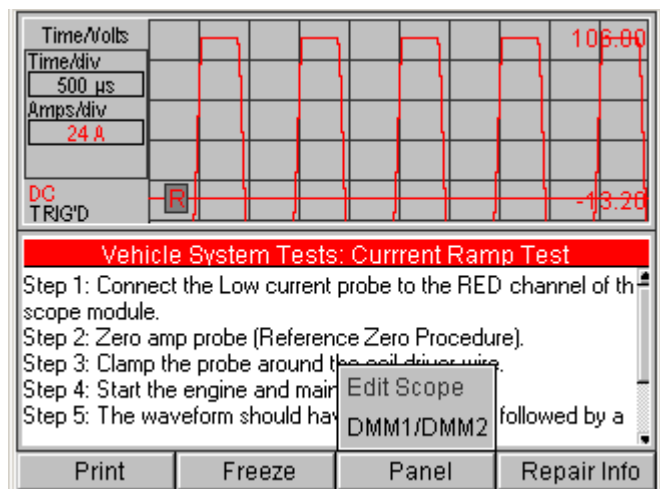
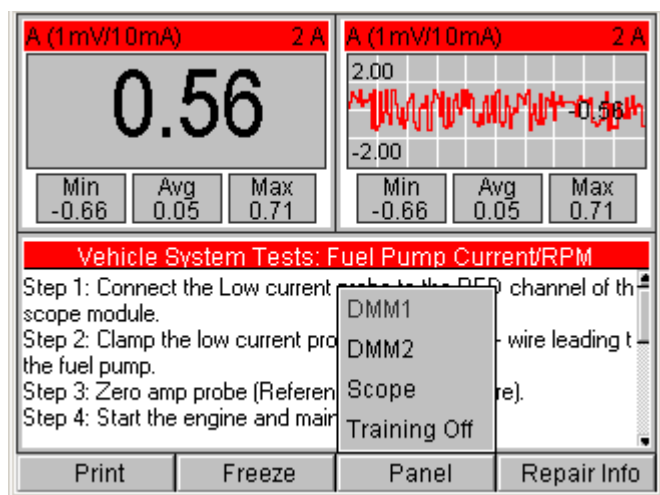

Figure 12.5: Vehicle System Tests Screen - Function Keys with Scope Waveform in Top Panel and Bottom Panel Selected
Figure 12.6: Vehicle System Tests Screen - Function Keys with DMM Readings in Top Panel and Bottom Panel Selected
The first group of function keys [**Print**, **Freeze**, **Panel**, **Repair Info**] appears when the **bottom panel is selected and it contains the test instructions**, as shown in Figure 12.5 and Figure 12.6.
- When the top panel displays a waveform and the bottom panel is selected (Figure 12.5), the **Panel** menu contains the options Edit Scope and DMM1/DMM2. Use them as follows:
- When the top panel displays DMM readings and the bottom panel is selected (Figure 12.6), the **Panel** menu contains the options DMM1, DMM2, Scope, and Training On/Off.